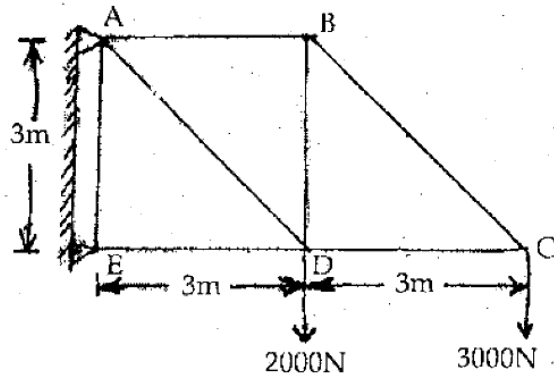

Fig. 1.3
8. Find the forces in the members BC, HG, BG and DG of the truss as shown in Fig. 1.3 . 20